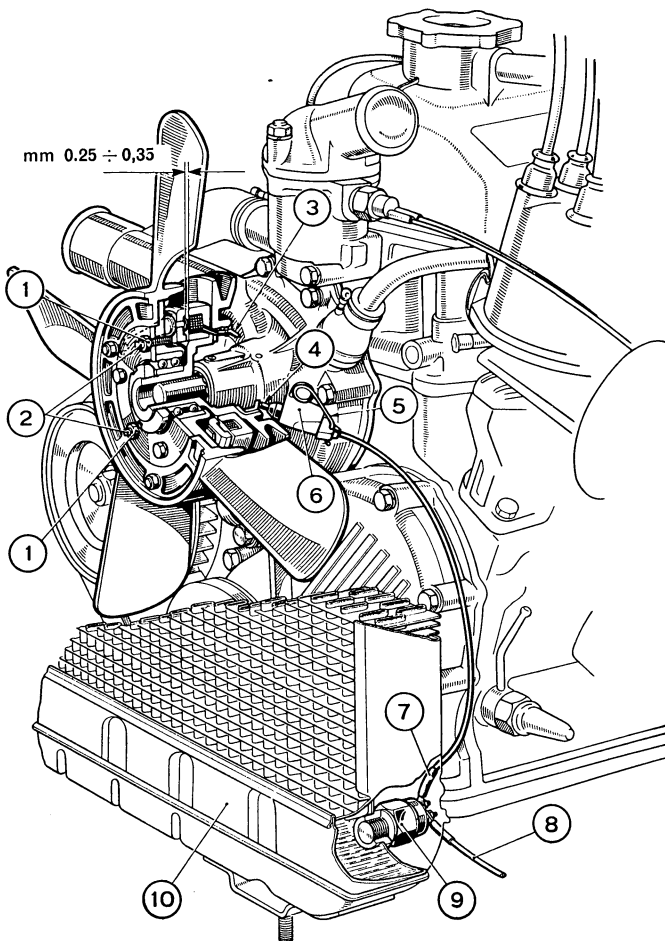

Fig. 85. - Automatic in-and-out fan (engine 115 C.005).
Current feed from main circuit to slip ring (6) is given by a sliding carbon brush (17); engagement and disengagement of fan are controlled by a thermal switch on down side of water radiator to contact of coolant (fig. 85).
- loosen the lock nuts (1, fig. 85) of adjusting screws (2);
- turn the screws (2) in or out, each time measuring the air gap by means of a feeler gauge at the affected screw;
- when air gap is correct, lock the screw nuts (1).
- thoroughly wipe the slip ring (3, fig. 85) with a dry cloth;
- unfasten the retaining spring (5, fig. 85), slide off the brush holder from its seat (6) and inspect the wear condition and contact ability of the brush (4) and brush pressure spring, making sure that the brush can slide freely in its seat; replace worn parts, if any;
- on reassembly, see that the spring (5) grasps the brush holder firmly.
If the temperature gauge on dashboard registers water temperature in excess of 185° F (85° C) and the radiator fan fails to throw in, the thermal switch may be at fault. If so, temporarily tie wires 7 and 8 (fig. 85) on the same terminal so that the fan will be operating all the time. Replace the thermal switch, as soon as possible.
If the fan fails to throw in even though the wires (7-8, fig. 85) have been tied together, which must be traced to an open solenoid winding (5, fig. 84), it will be also possible to have the fan operate all the same, as a temporary measure, by the extended drag method, as follows:
- loosen the three nuts (1, fig. 85) which secure the air gap adjusting screws (2);
- turn the three adjusting screws (2, fig. 85) part way in, so that the armature adheres to the solenoid housing;
- lock the screws with the three nuts (1, fig. 85); in this way the fan will be put into uninterrupted operation. As a definite remedy of trouble, arrange to replace the pulley-solenoid-slip ring assembly.
If the fan fails to throw in even though the wires (7-8, fig. 85) have been tied together, this may be due to the commutator-to-solenoid wire (7, fig. 84) being open; if so, to have the fan operate, proceed as outlined at 2), for temporary correction.